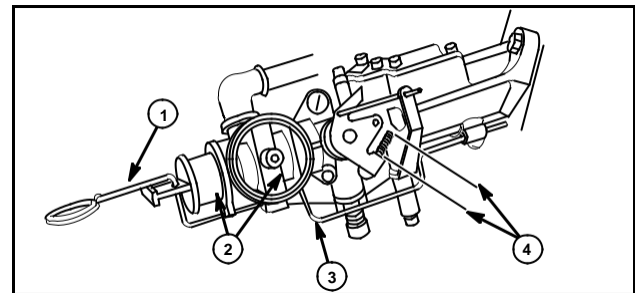

Fig. 60
Pull lever (1) to full choke position (2). The distance between throttle stamping and throttle screw stop (4) must be $9/16$ " (14.27 mm). To adjust, bend linkage where shown (3), Fig. 60.